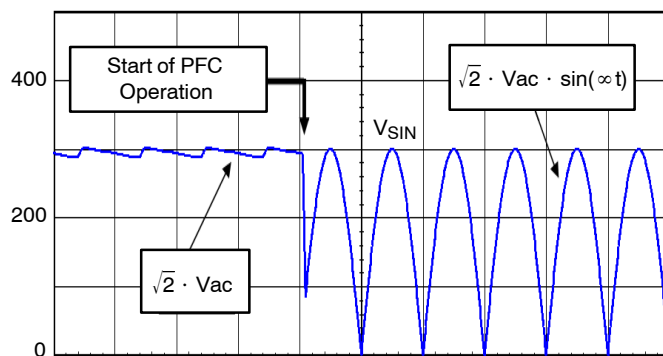

Figure 69. Typical Input Voltage of a PFC Stage
i.e., about 64% of the previous value. Therefore, the same line magnitude leads to a V_{Pin2} voltage that is 36% lower when the PFC is working than when it is off (refer to Figure 69). That is why the NCP1605 features a 50% hysteresis ($V_{BOL} = 50\% V_{BOH}$).